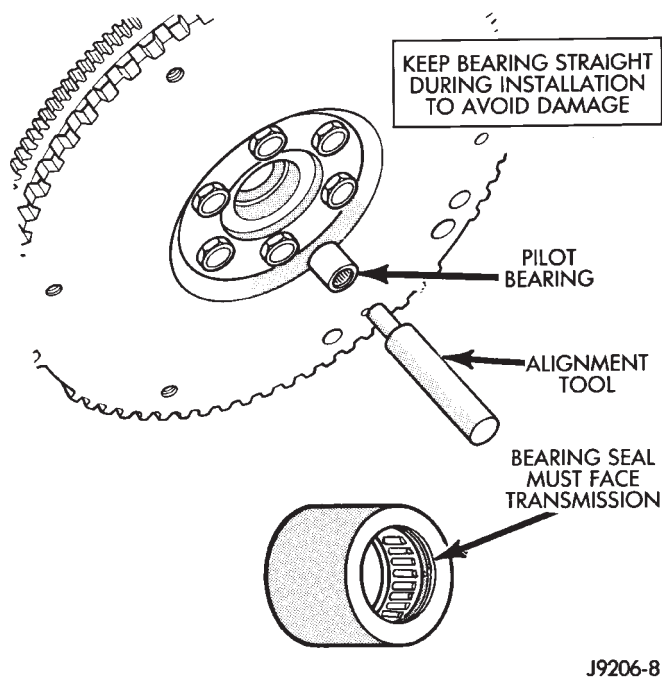

Fig. 6 Typical Method Of Installing Pilot Bearing
(3) Remove pilot bearing. Use blind hole puller tools such as those included in Snap-On set CG40CB to remove bearing.
(4) Clean bearing bore with solvent and wipe dry with shop towel.
(5) Lubricate new pilot bearing with Mopar high temperature grease.
(6) Position and start new bearing in bearing bore by hand. **Note that pilot bearing has seal at one end. Install bearing so seal is facing out and toward transmission.**
(7) Seat pilot bearing with clutch alignment tool (Fig. 6). **Keep bearing straight during installation. Do not allow bearing to become cocked. Tap bearing into place until flush with edge of bearing bore. Do not recess bearing.**